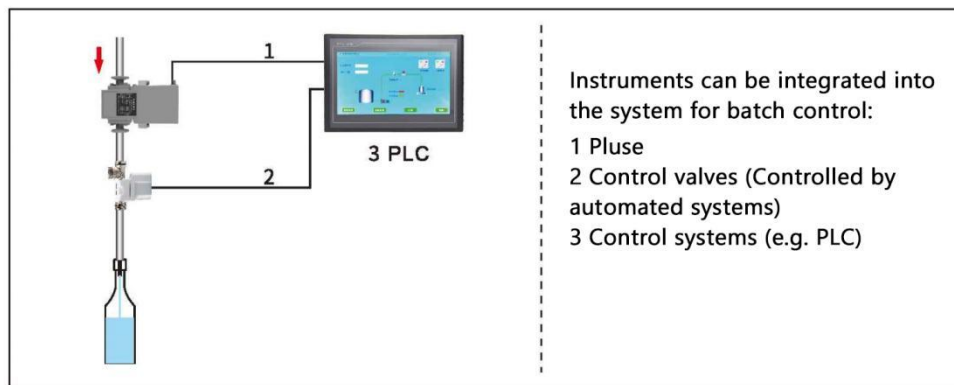

Figure 3
8.1 Instrument Output Type: with 1 Pulse (Figure 3)